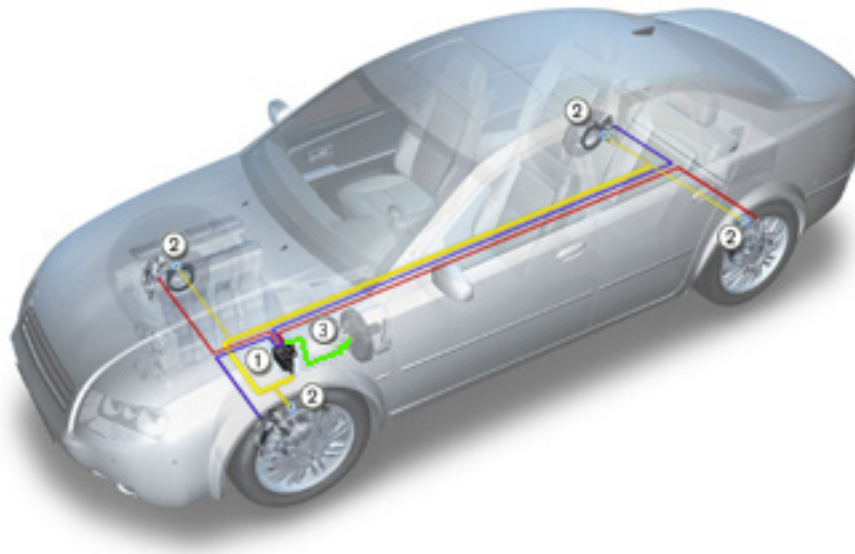

Figure 1: Electronic Braking System (EBS)
Figure 1 shows an illustration of an EBS as it would be in a car, identifying ① the ECU on which the EBS software runs, called the *EBS ECU*; ② the speed sensors attached to the car’s wheels, and ③ the brake pedal. In this fictitious “brake by wire” scenario, when the driver presses their foot down on the brake pedal, a message is sent on the CAN bus (depicted as a green coloured line) to the EBS ECU instructing it to apply the brakes. The EBS ECU is connected to the car’s brakes (via the red and blue lines in the figure). The EBS ECU receives information from the speed sensors (connected via the yellow lines) which it uses to detect when the wheels have lost traction and anti-lock braking needs to be engaged.